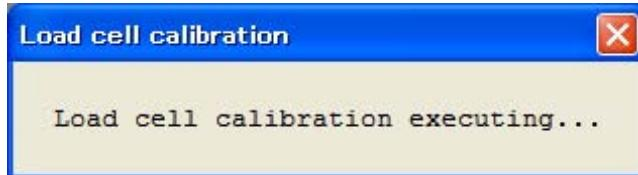

Fig. 10.17 Load Cell Calibration In-Progress Message
- (1) The message “Load cell calibration executing...” (Fig. 10.17) appears and the calibration is performed.